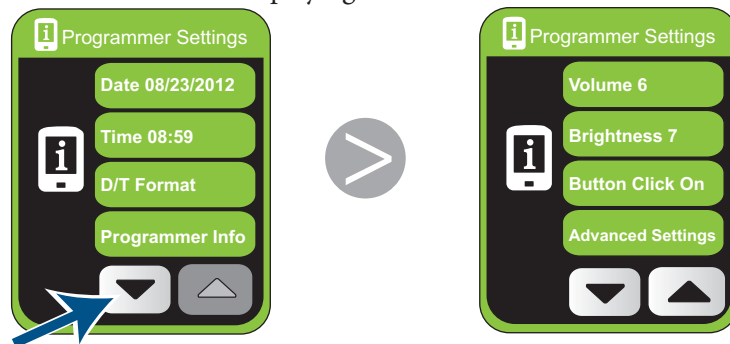

Figure 92. Viewing additional settings buttons
2. Tap  (Figure 92). Additional buttons on the Programmer Settings screen appear with the Button Click button displaying whether the button click is on or off.